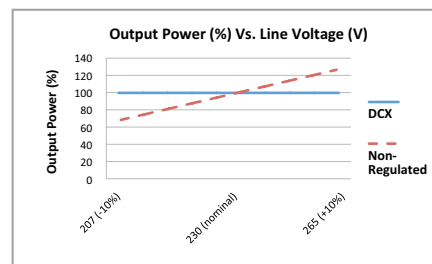
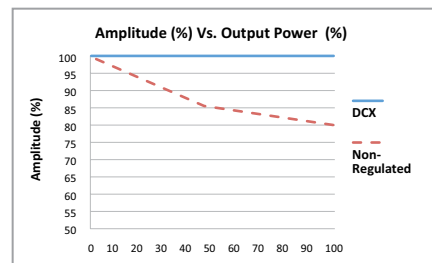

Figure 2
Figure 3
- Regulation** – The closed-loop amplitude control maintains accurate output amplitude by correcting for disturbances in line voltage (Fig. 2) and output power loading (Fig. 3). Constant amplitude control also requires less force to deliver output power, which results in greater weld consistency, less flash, and less deflection of thin-walled parts.